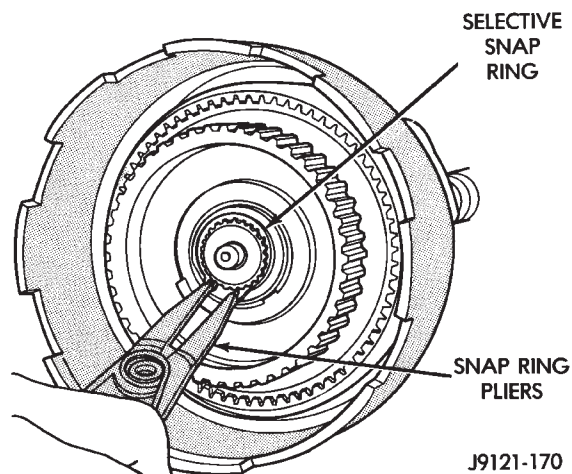
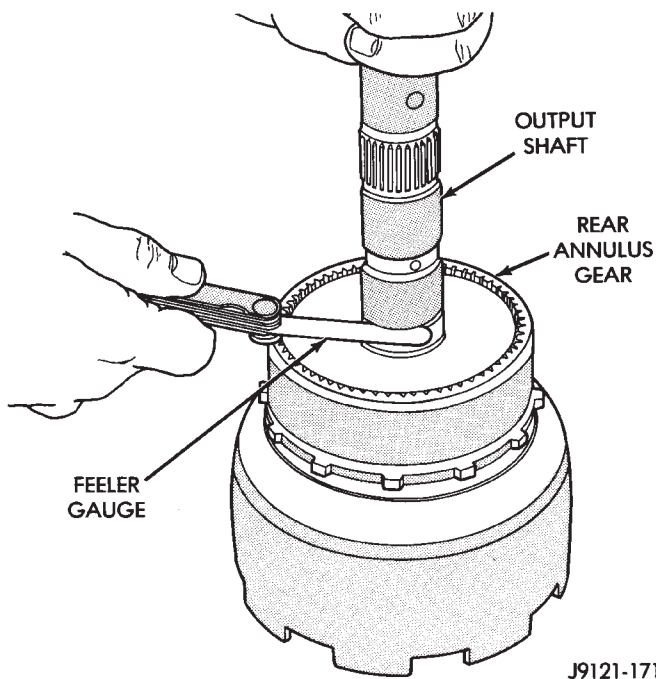

Fig. 163 Installing Planetary Selective Snap Ring
Fig. 164 Checking Planetary Geartrain End Play
(21) Install planetary selective snap ring with snap ring pliers (Fig. 163). Be sure ring is fully seated.
(22) Turn planetary geartrain assembly over so driving shell is facing workbench. Then support geartrain on wood block positioned under forward end of output shaft. This allows geartrain components to move forward for accurate end play check.
(23) Check planetary geartrain end play with feeler gauge (Fig. 164). Gauge goes between shoulder on output shaft and end of rear annulus support.
(24) Geartrain end play should be 0.12 to 1.22 mm (0.005 to 0.048 in.). If end play is incorrect, snap ring (or thrust washers) may have to be replaced. Snap ring is available in three different thicknesses for adjustment purposes.